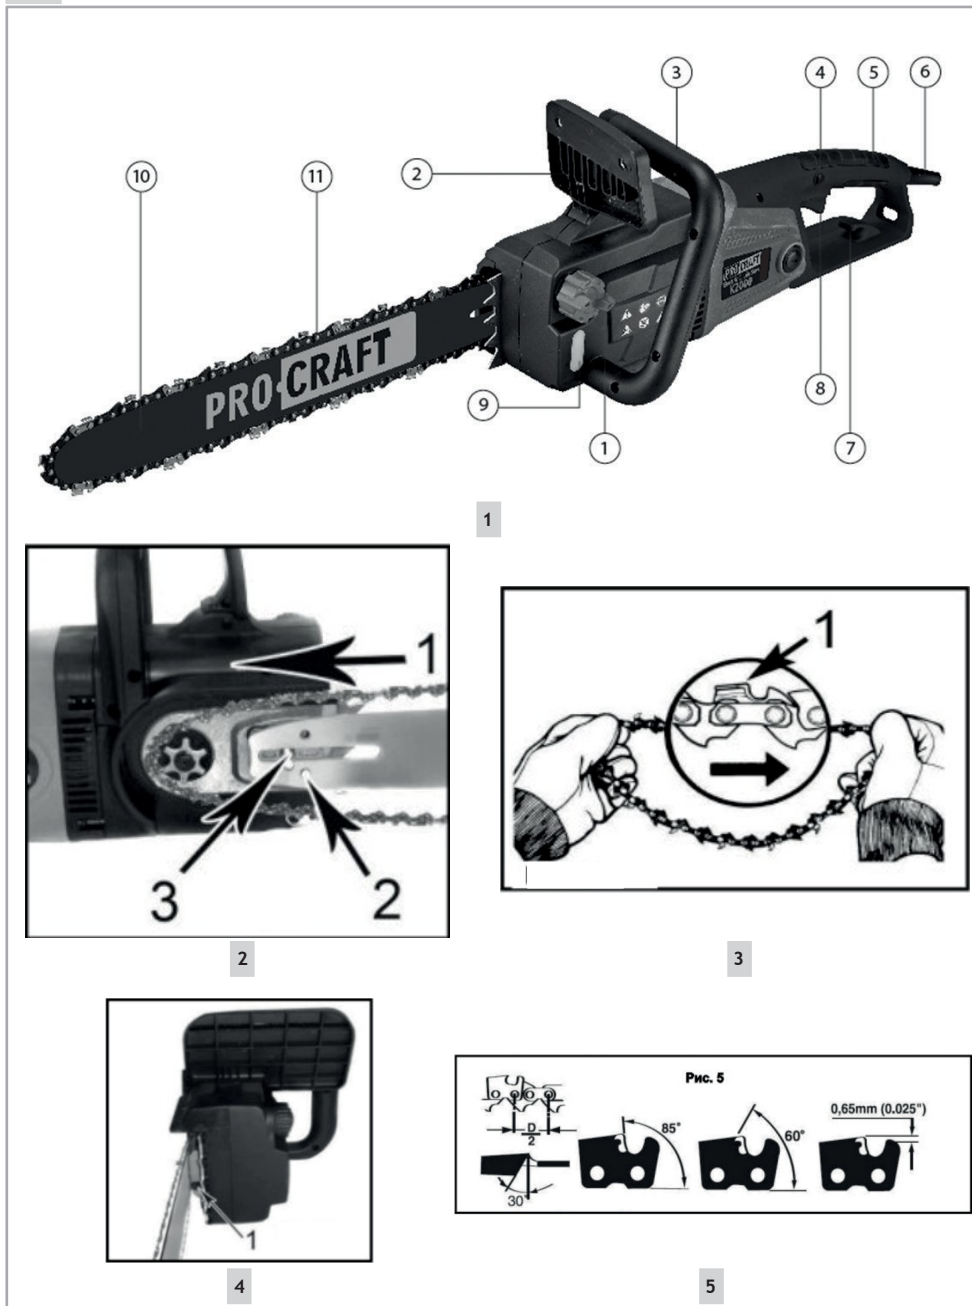

Рис. 1, 2 / Vykres/ Kreslenie/ Obrazek/ Рисуванє/ Desen/ Kєp/ Рис./ Мал.
(See Figure 1). For safety, the chain saw is equipped with an inertial chain brake (2) (See Fig. 1). The chain brake can also be automatically applied in the event of a sharp, hard kickback caused by touching the end of the saw to the wood during operation. The chain brake is installed to lock the saw chain before starting and to stop immediately in case of emergency.
(See Fig. 1) prevents accidental starting of the motor. It is located on the side of the rear handle. The start key (8) (See Fig. 1) cannot be pressed unless the start interlock button (4) is pressed (See Fig 1).
Back handle (5) (See Figure 1). The rear handle has a rubberized grip for a secure grip, has an extended protective shield at the bottom that protects your hands from injury in the event of a target rupture, as well as from scratches by branches and twigs during operation.
(See Figure 1). The saw is equipped with a high quality chain that reduces the risk of rebound and its intensity thanks to specially designed contour links.